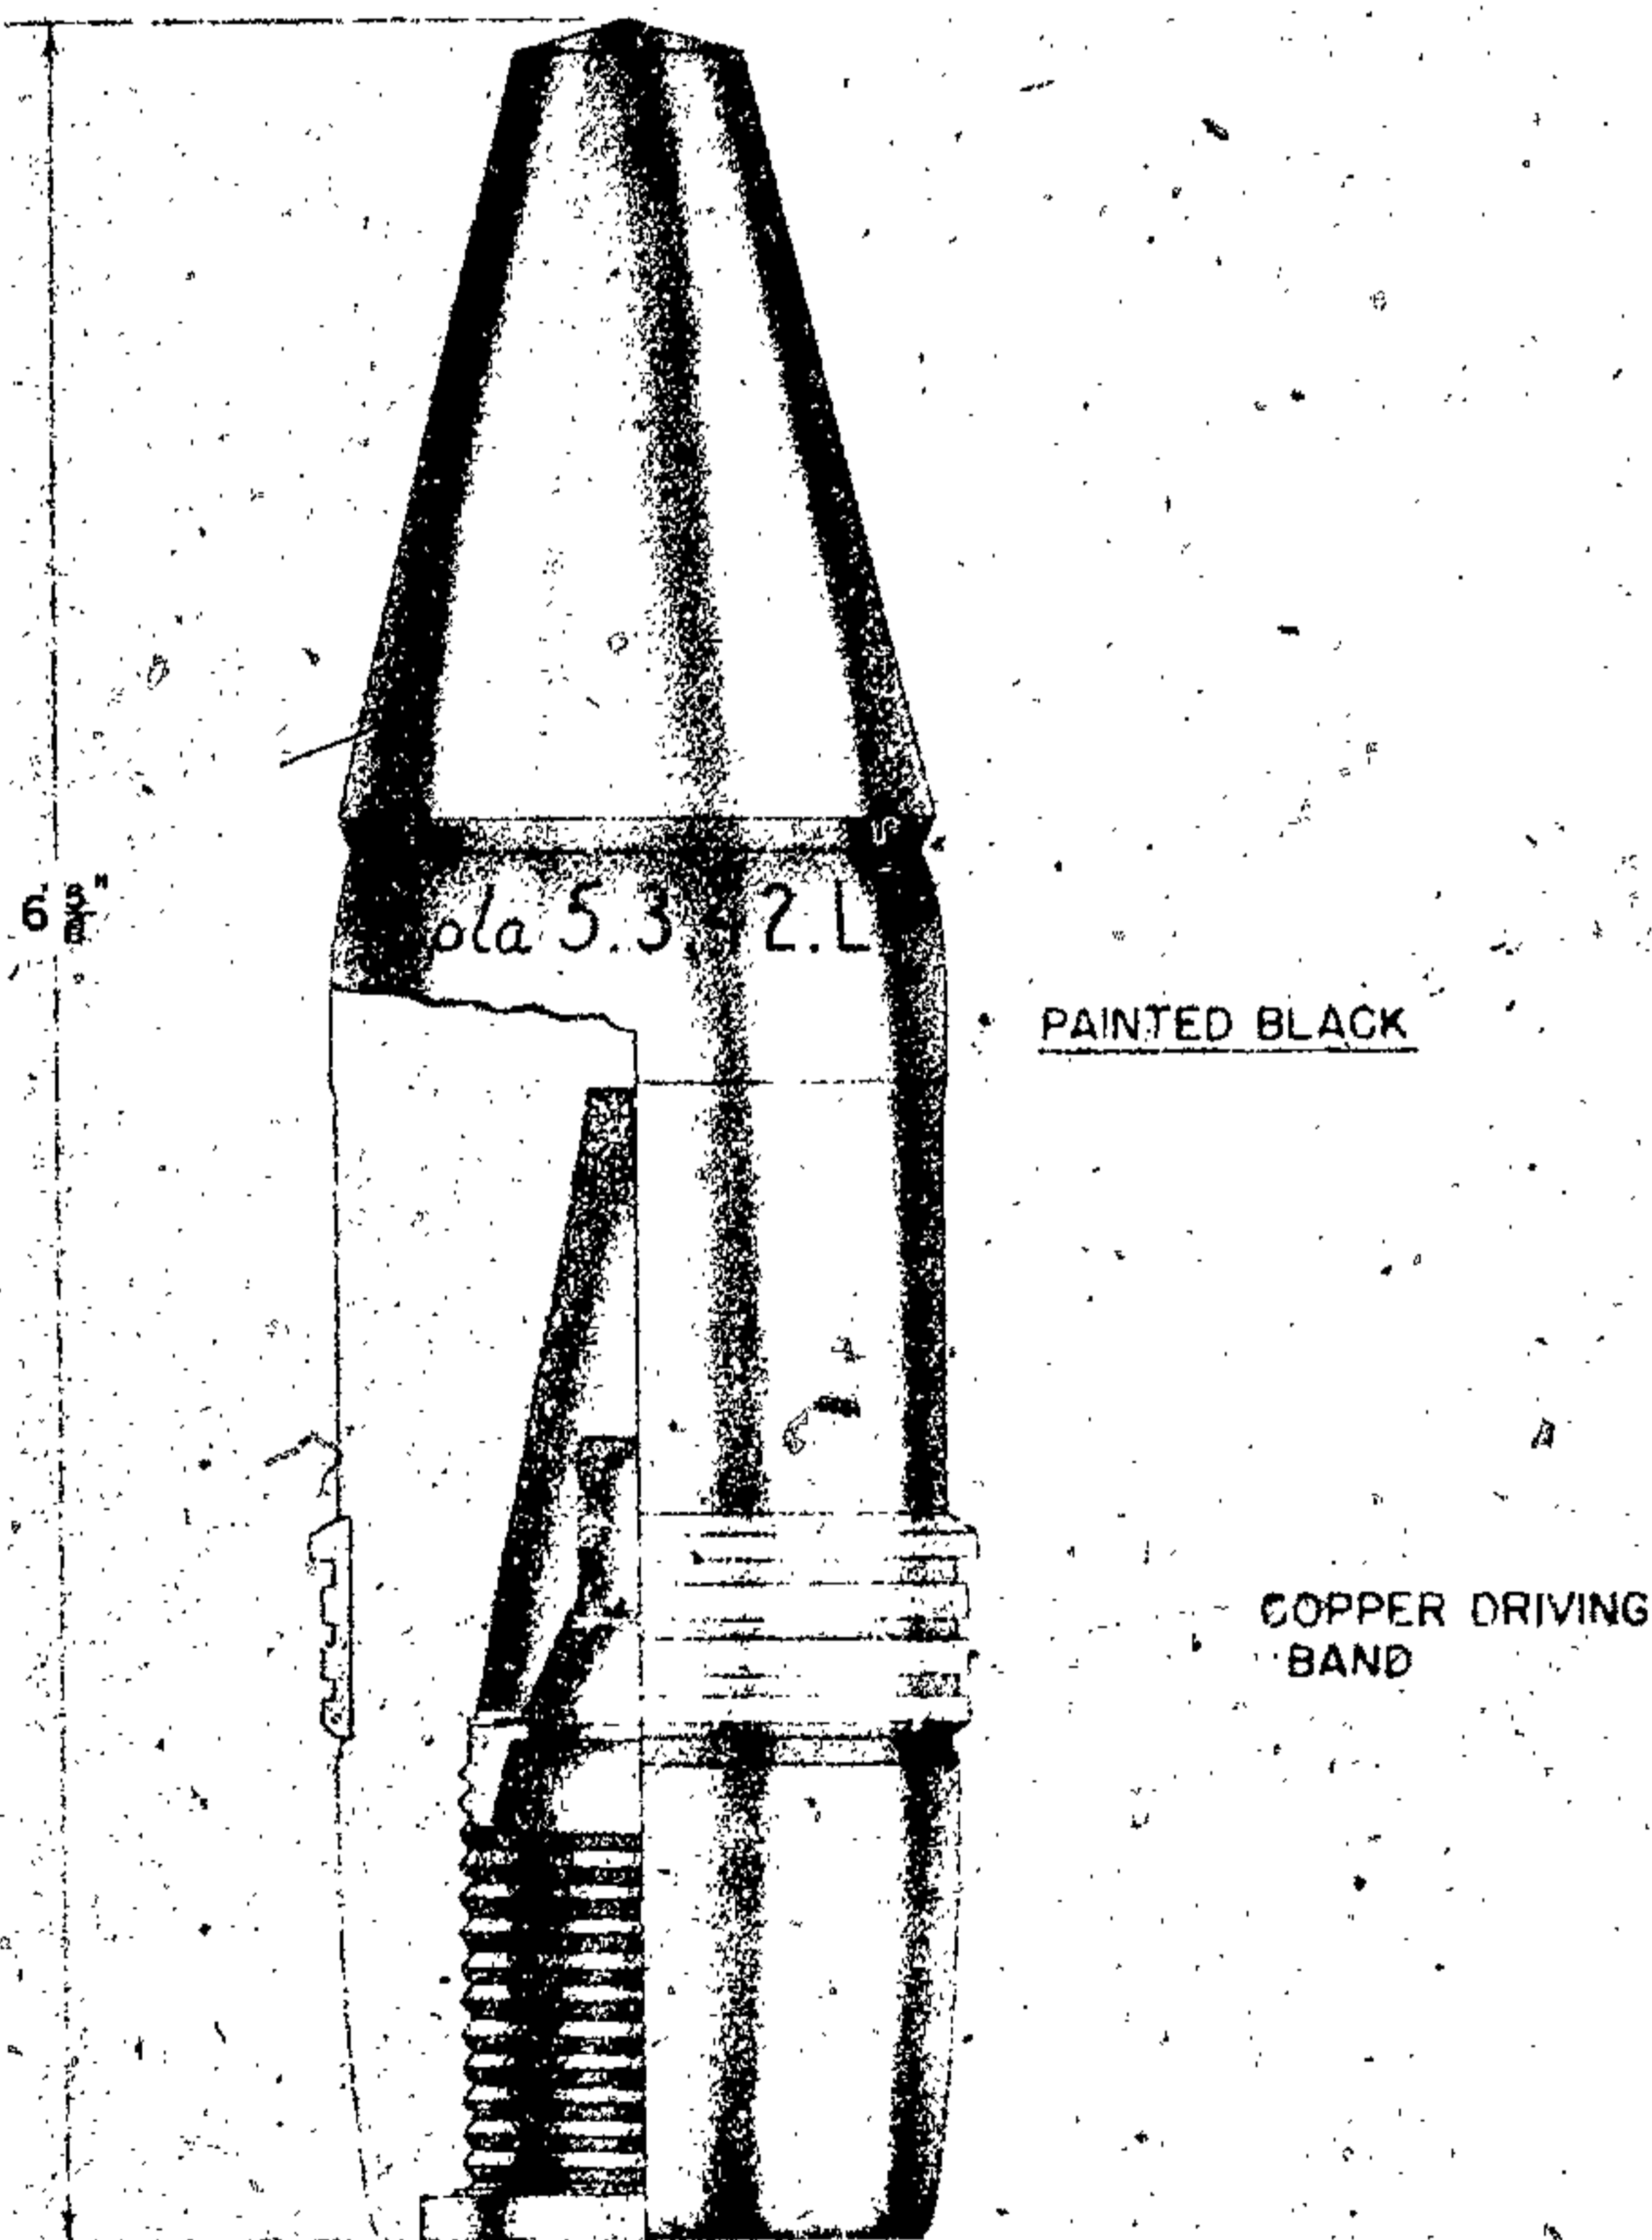

Figure 365—A. P. C. Projectile Type 36 (Czech. Design), 47-mm, 4.7-cm Pzgr. Patr. 36 (t)
4.7-cm Pzgr. Patr. 36 (t) (Panzergranate Patronen 36 [t]). (See fig. 365.)